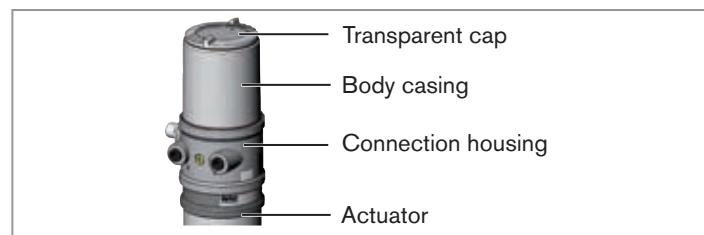

Fig. 12: Open control head
- When unscrewing and screwing in the transparent cap, do not hold the actuator of the process valve but the connection housing (see "Fig. 12: Open control head").